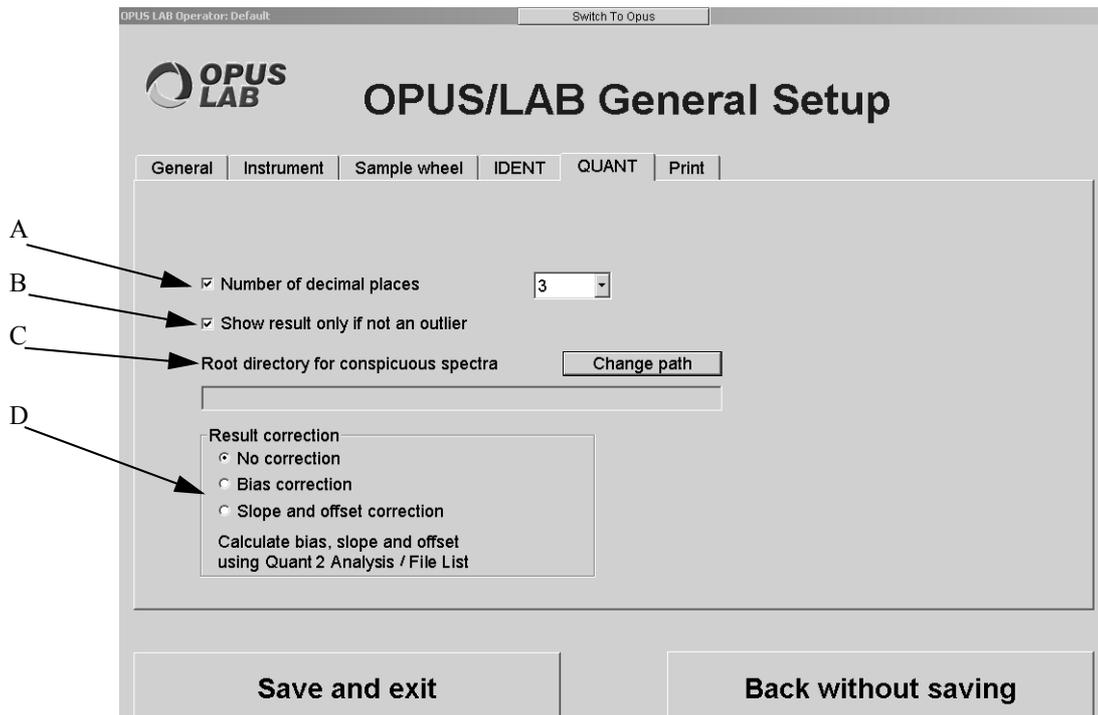

Figure 6: OPUS LAB General Setup - QUANT
- I) This column is only available if you have activated the appropriate option button on the *QUANT* tab in the *General Setup* (see figure 6 on page 12). In this column you can define the value for a bias (additive factor) correction of a QUANT evaluation result. The bias is a systematic deviation of the predicted value from the true value, due to a particular measurement method. In practice, it is intended to avoid such systematic errors. A bias correction may be helpful. This kind of correction changes the values of a regression straight line into the values of an origin straight line. In this case the bias (ordinate) of these lines is deducted from the respective points, i.e.:
- J) This column is only available if you have activated the appropriate option button on the *QUANT* tab in the *General Setup* (see figure 6 on page 12). In this column you can define the value for a slope (multiplicative factor) correction of a QUANT evaluation result. Compared to bias correction, the slope of the straight lines is set to 1.